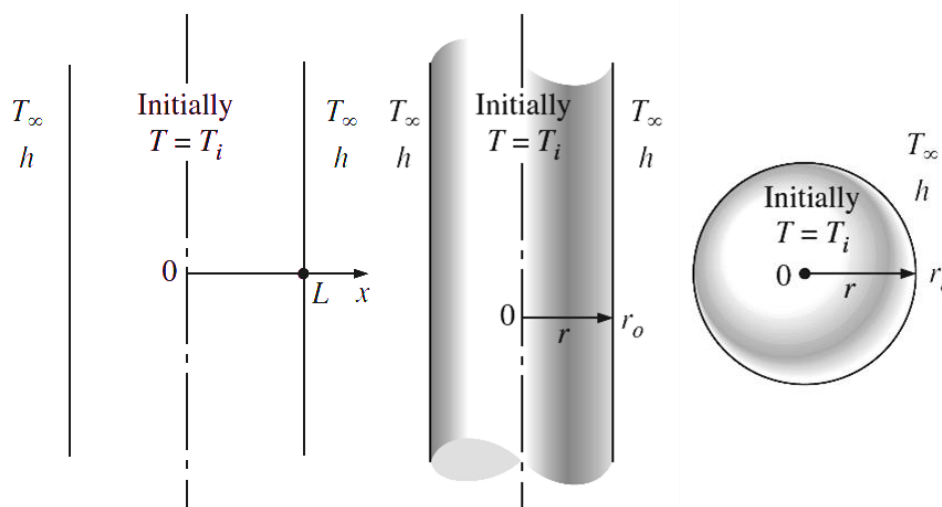

Fig. 4.4 Transient heat conduction in large wall, cylinder and sphere
- Consider a plane wall of thickness $2L$, a long cylinder of radius r_o , and a sphere of radius r_o initially at a uniform temperature T_i , as shown in figure 4.4.